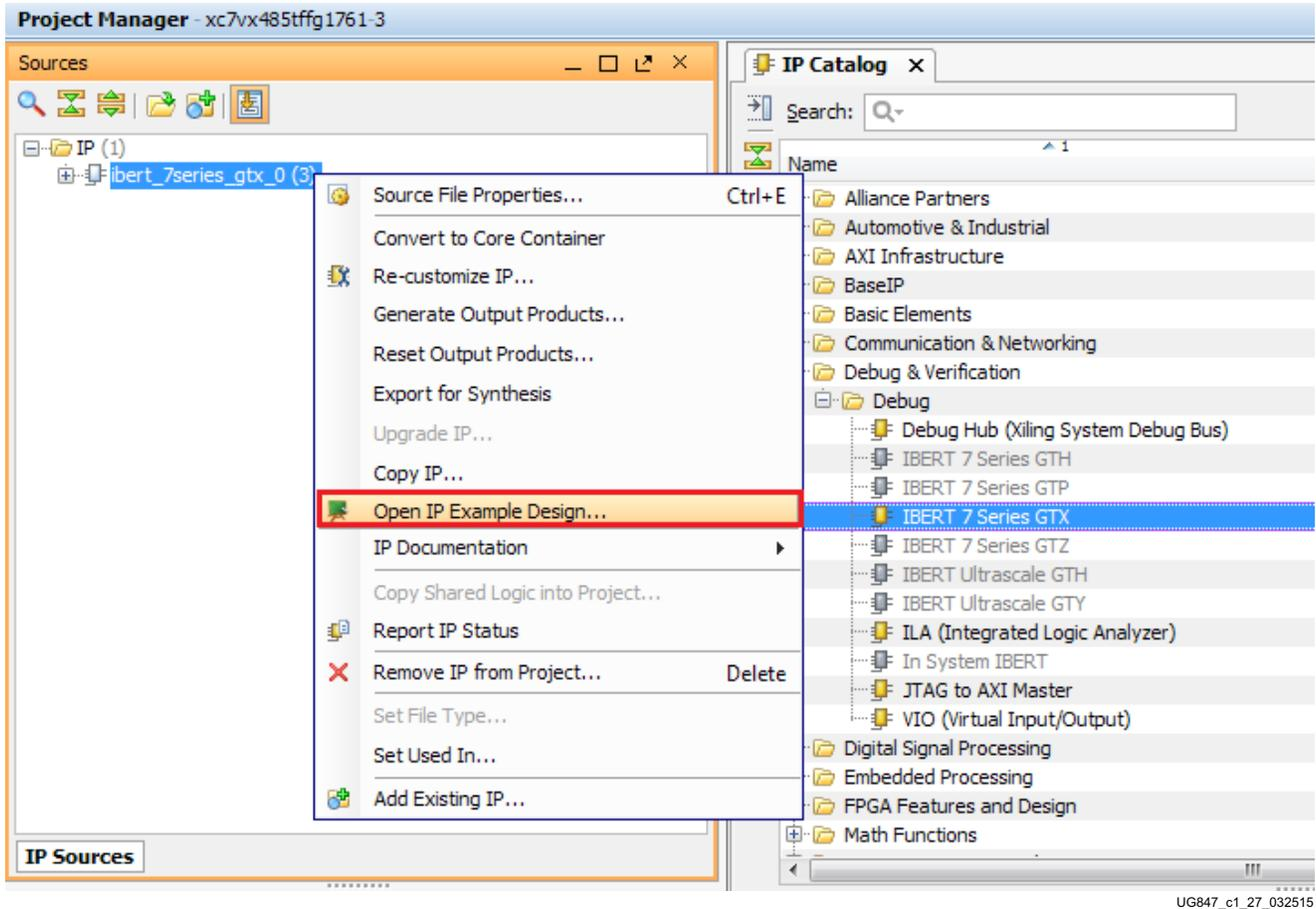

Figure 1-27: Open IP Example Design
- Back to Manage IP, in the Sources window, right-click the **IBERT IP** and select **Open IP Example Design** (Figure 1-27). Specify a location to save the design, press **OK**, and the design opens in a new Vivado design tools window.